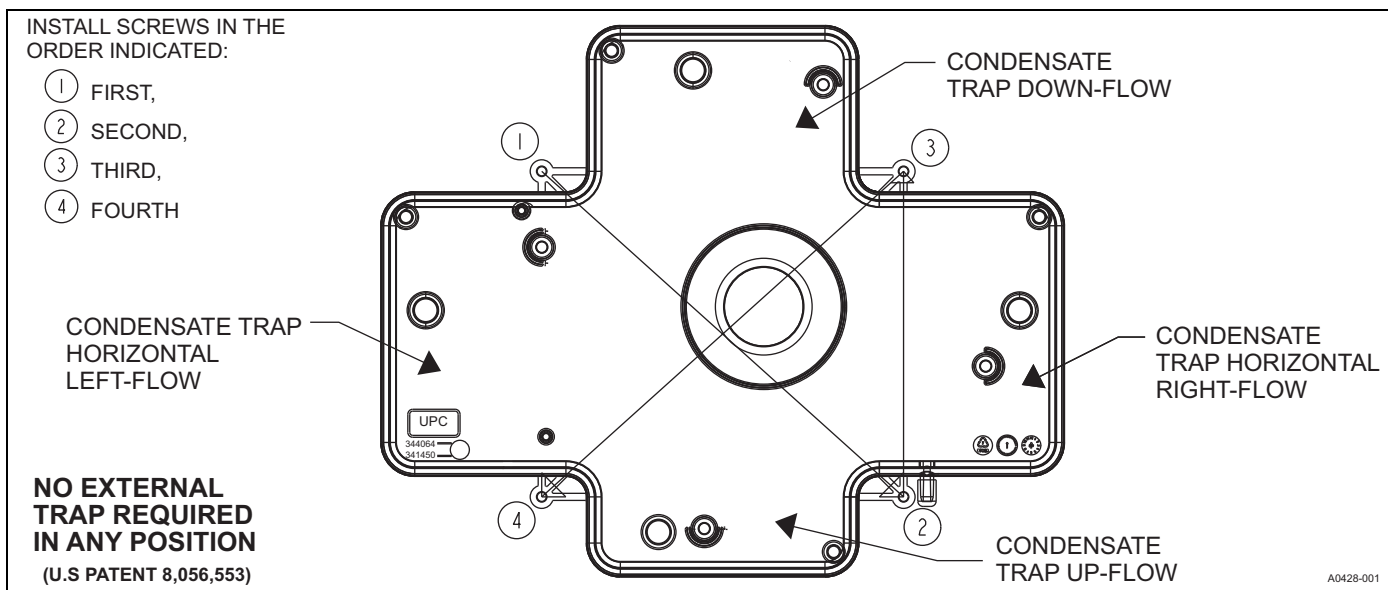

FIGURE 1 : Condensate Pan Fastener Mount Sequence
10. Install the new condensate pan by securing it to the vestibule panel in accordance with the INSTALL SCREWS sequence shown in Figure 1. The condensate pan must be sealed tightly against the furnace vestibule panel. All stripped screws must be replaced with larger #10 screws (field provided).